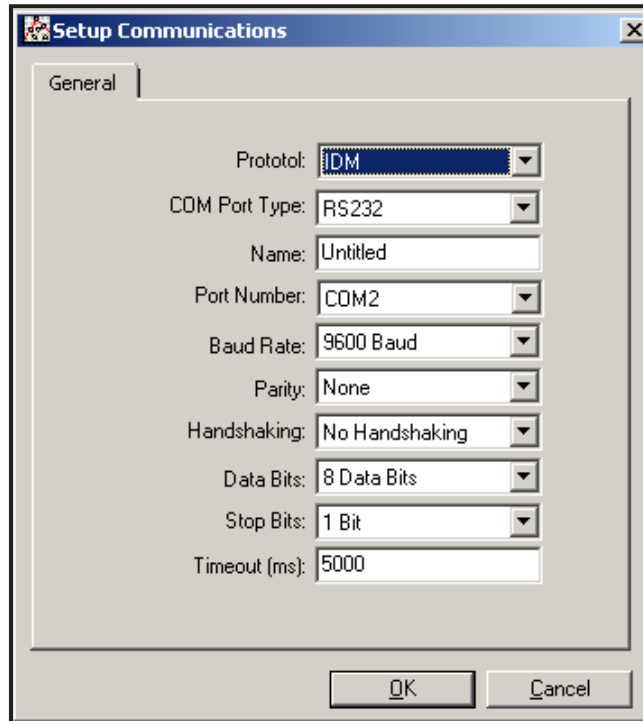

Figure 33: *Setup Communications* Screen
- Click on the *Communications Port* option to select it. The *Setup Communications* screen appears similar to *Figure 33* below.